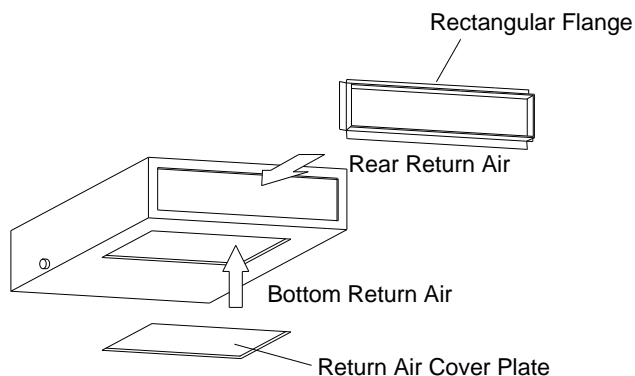

Figure 3-1-21
- (2) The default installation location of the rectangular flange is at the back and the return air cover plate is at the bottom, as shown in Figure 3-1-21.